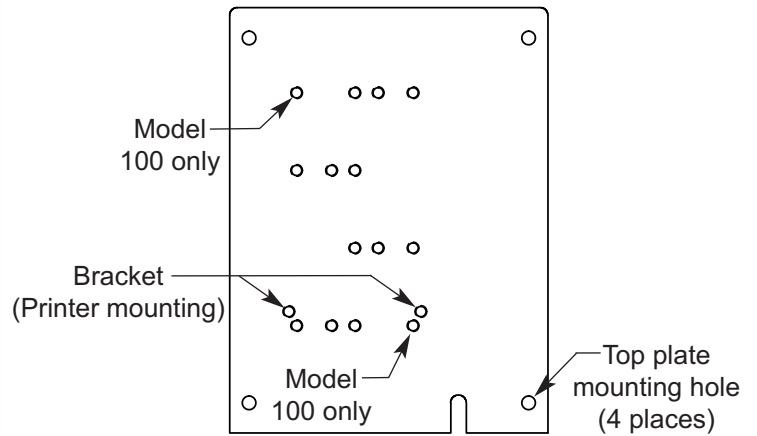

Figure 2.5
F. SETUP: Figure 2.5 - 2.7
G. CONVERSION PROCEDURE: Figure 2.5 - 2.8